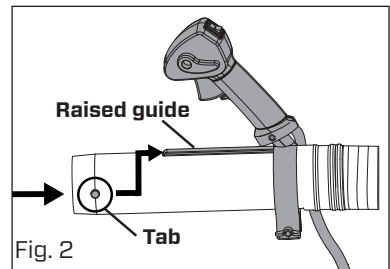

Fig. 2
2. Before attaching the control pipe (16) to the end of the flexible pipe (15) you must position the control handle (5) over the control pipe (fig. 2). To do this, rotate the control handle (5) so that its bracket passes over the two tabs, one either side. Now align the control handle bracket with the raised guide. Push the control handle (5) as far as it will go along the control pipe (16). Do not tighten the wing nut at this stage.